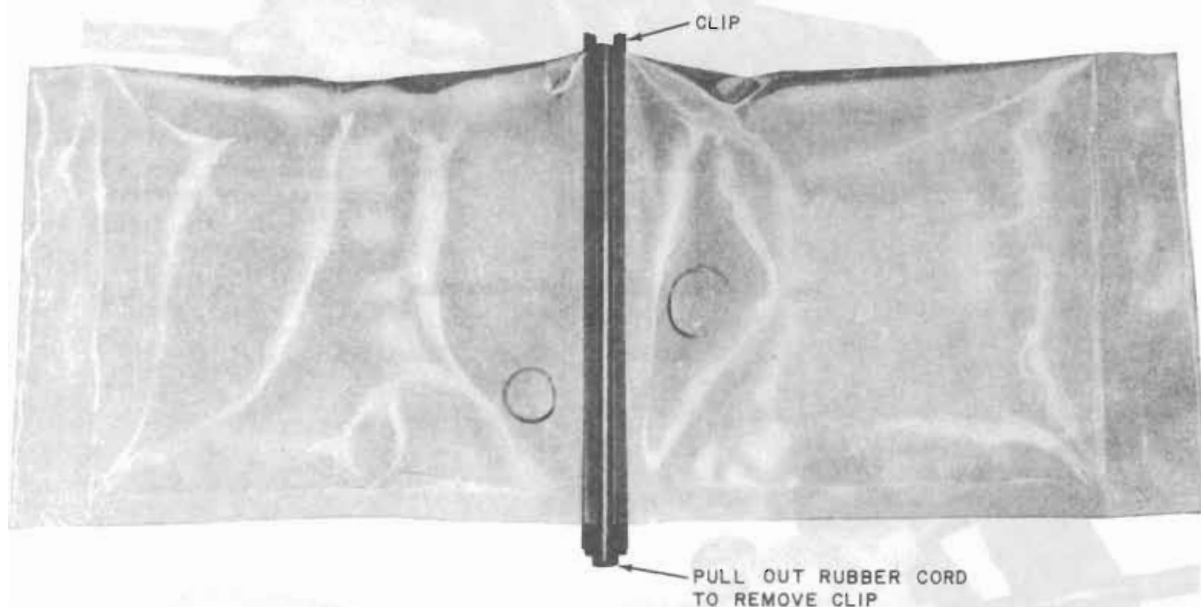
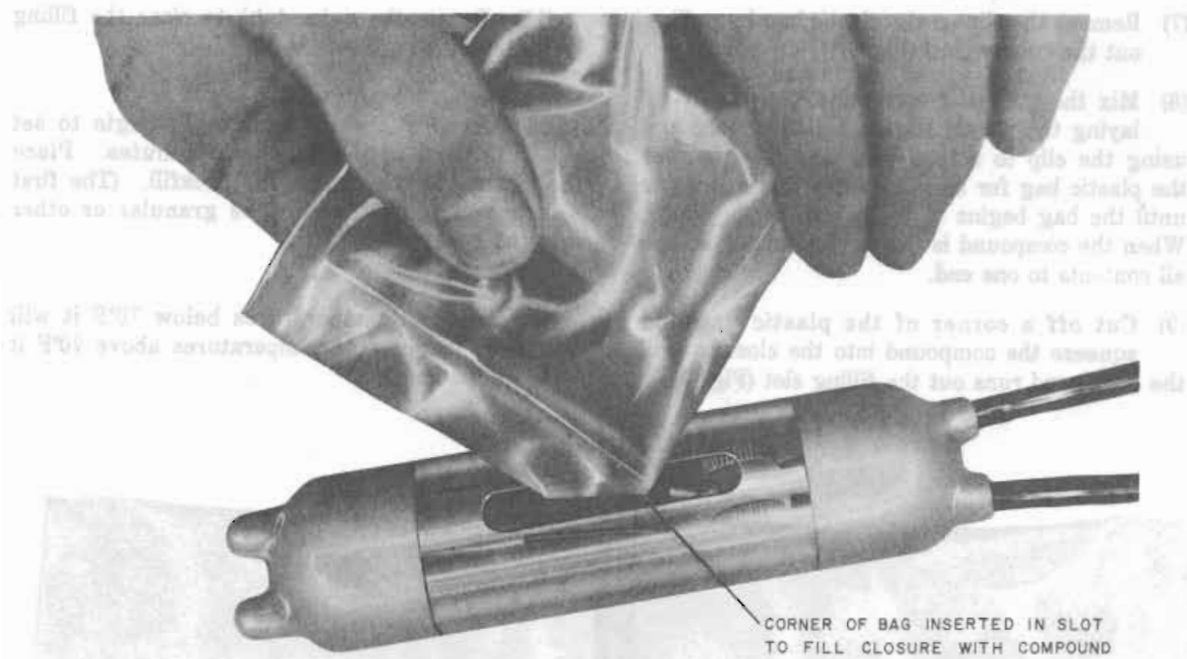

Fig. 31—Plugging Compound
Fig. 32—Filling Closure with Compound
(7) Remove the clip on the plastic bag by pulling out the rubber cord (Fig. 31).
(8) Mix the plugging compound thoroughly by laying the plastic bag on a flat surface and using the clip to scrape back and forth across the plastic bag for approximately one minute or until the bag begins to feel warm to the touch. When the compound is thoroughly mixed, scrape all contents to one end.
(9) Cut off a corner of the plastic bag and squeeze the compound into the closure until the compound runs out the filling slot (Fig. 32).